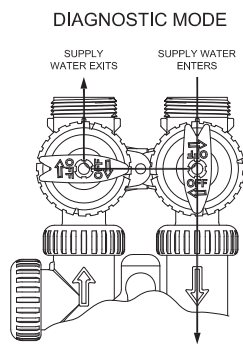

FIGURE 2
If using optional bypass **SLOWLY** turn bypass valve to **DIAGNOSTIC** position (**figure 2**) or slowly open inlet valve to allow water to slowly enter the softener.
- 3. Diagnostic Position:** The inlet handle points in the direction of flow and the outlet handle points to the center of bypass valve, system water pressure is allowed to the control valve and the plumbing system while not allowing water to exit from the control valve to the plumbing. (See Figure 2)